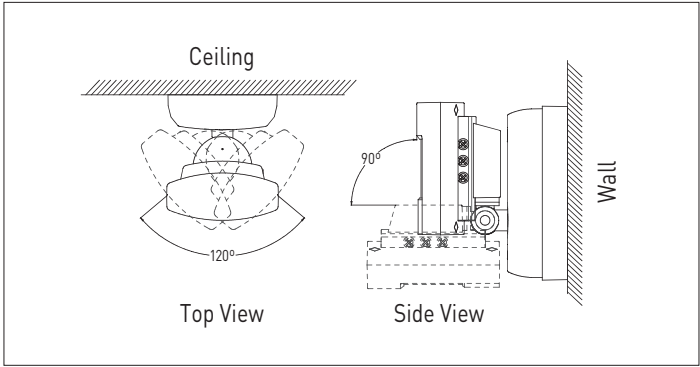

Figure 3
To change the head orientation, adjust the head position by hand to the desired position. Refer to Figure 3 to see different mounting options.
3. Adjust the head position as required. See figure 3.